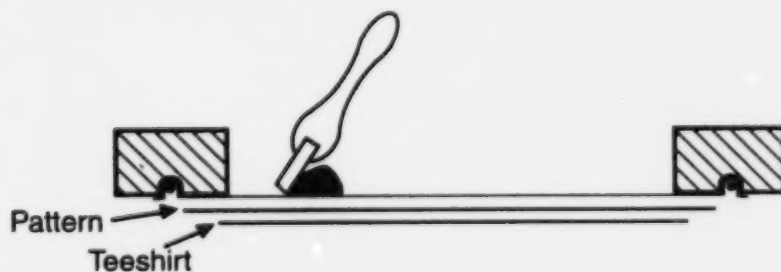

Figure 14 - Printing Process Illustration
7. Select the appropriate printing ink (poster or textile). Apply the ink to the top of the screen and squeegee across the pattern then back. Use firm pressure and angle the squeegee slightly as you print. (See Figure 14)